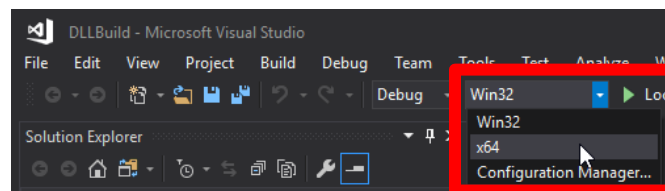

Figure 72 - Build Conditions
- 6) Select the build conditions that are needed (debug/release and 32/64 bit) (See Figure 72 - Build Conditions)